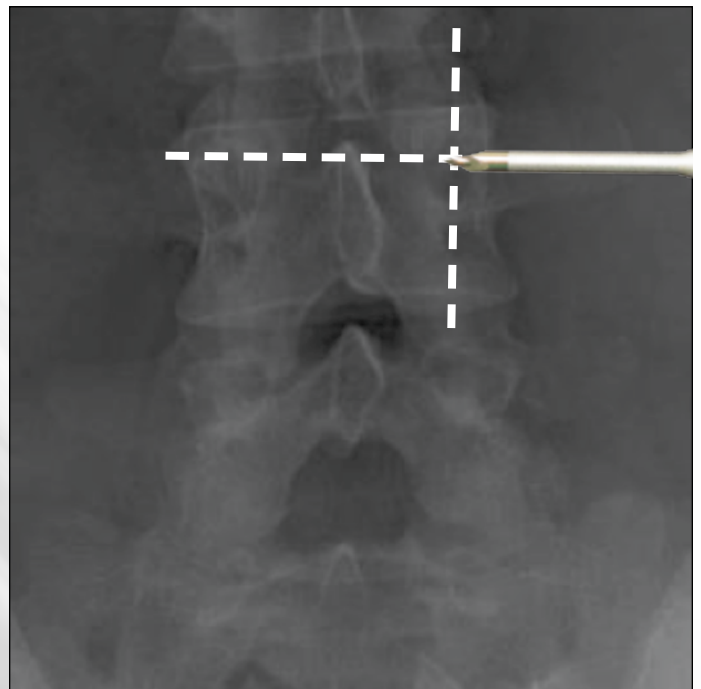

FIG. 8
- Using AP imaging, advance the Cannulated Awl into the pedicle with a slight medially directed angle. Cease advancement when the tip appears at the midpoint of the pedicle on the image. (FIG. 8)